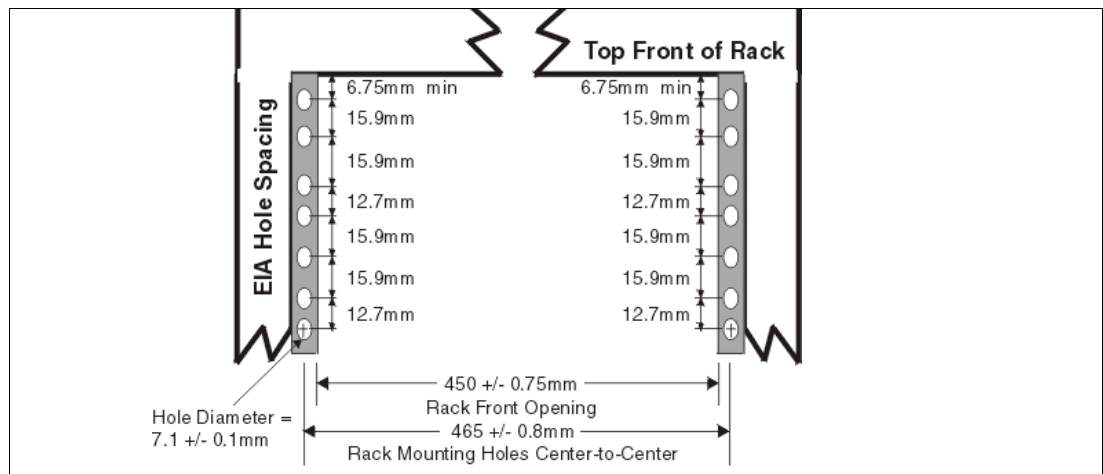
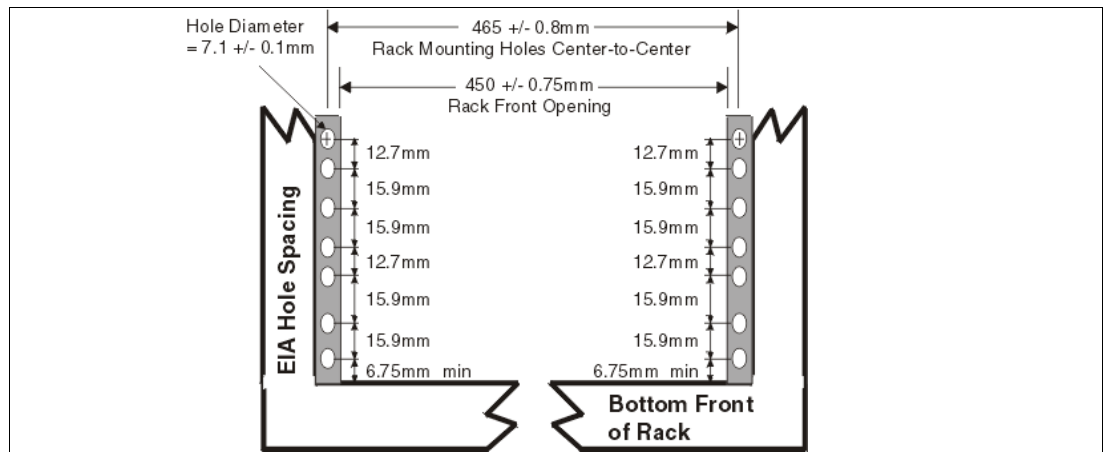

Figure 1-6 Rack specification dimensions, top front view
Figure 1-7 Rack specification dimensions, bottom front view
44.45 mm (1.75 inches) apart on center. Rail-mounting holes must be $7.1 \text{ mm} + 0.1 \text{ mm}$ ($0.28 \text{ inches} + 0.004 \text{ inches}$) in diameter. See Figure 1-6 and Figure 1-7 on page 22 for the top and bottom front specification dimensions.